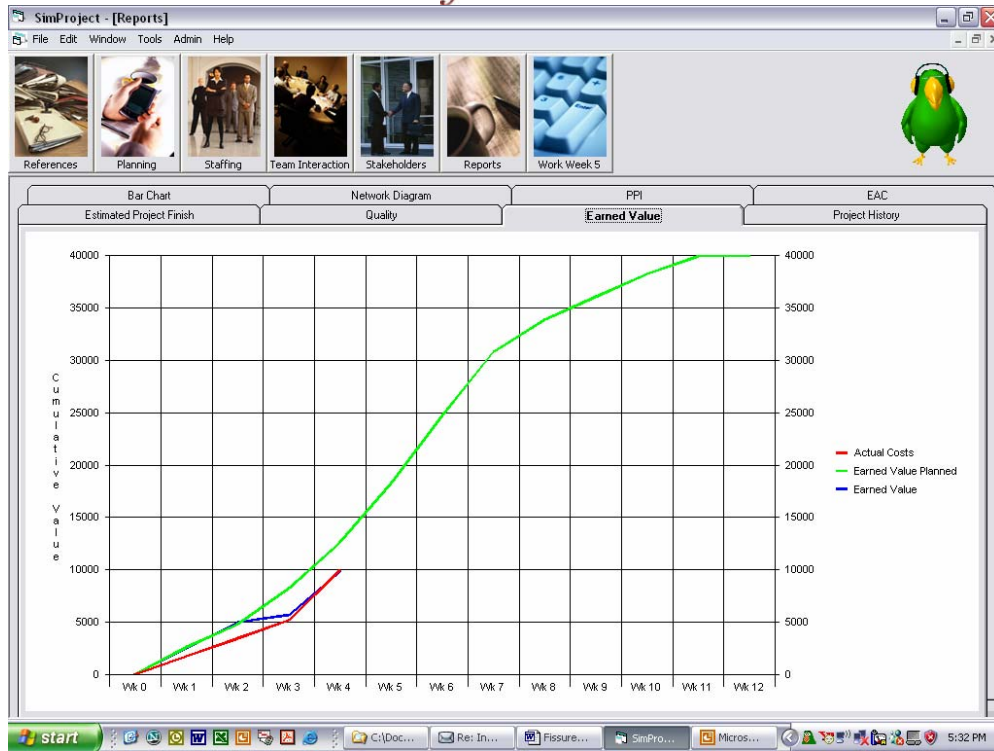

Figure 22 - Reports Screen – Earned Value
- Earned Value – comparison of planned earned value (what you planned to have accomplished), actual cost, and earned value (what you have actually accomplished) (Figure 22)